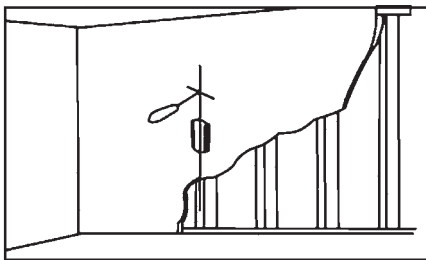

Fig. 3a
Wood stud walls (Fig 3a)
1. Use a pencil, awl, or a nail to mark the location of the wall stud centers (Fig 3a) after locating the stud with an electronic stud locator. The distance between marks should not be less than 16 inches (Studs must not be less than 16 inches (40.6 cm)).